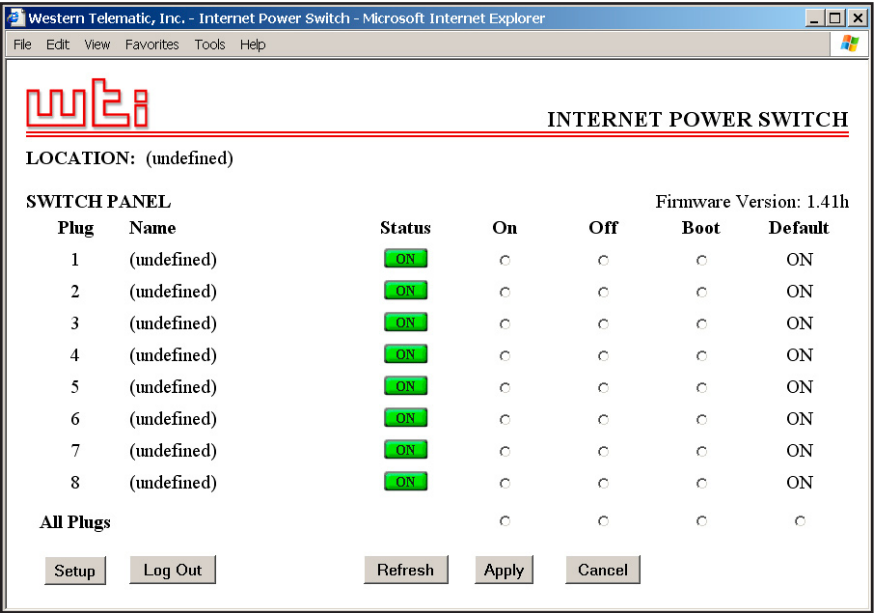

Figure 3.1: Plug Status Screen - Web Browser Interface (IPS-800 Shown)
- a) **Web Browser Interface:** Start your JavaScript enabled Web Browser. Enter the IPS's default IP address (192.168.168.168) in your browser address bar and then press **[Enter]**. A password prompt will be displayed. Since at this point, the user name and password have not yet been defined, you can simply click OK without keying in a user name or password. The Plug Status Screen will be displayed as shown in Figure 3.1.